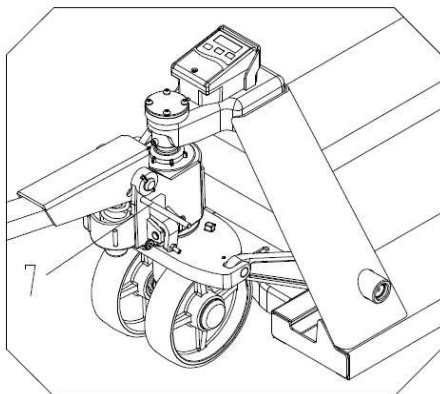

Fig3
3.7 See fig 3, turn the hand grip to the level position, pull out pin 7 and save pin 7 with care for next use.